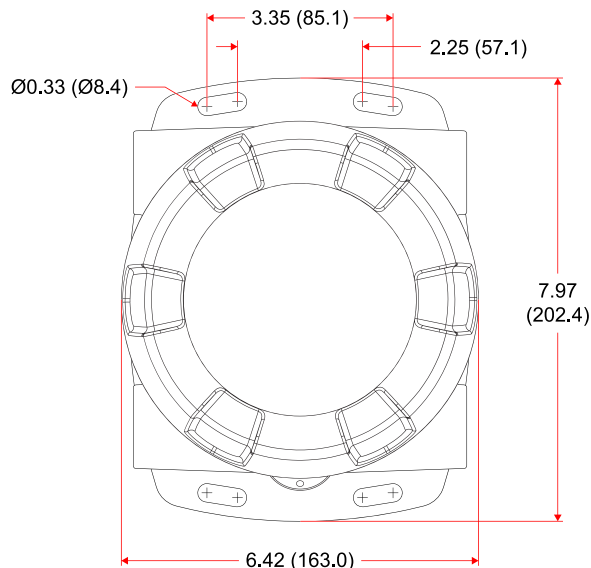
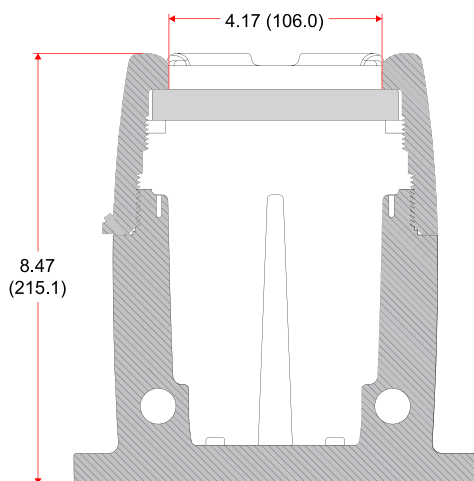

Figure 2. Enclosure Dimensions – Front View
Figure 3. Enclosure Dimensions – Side Cross Section View
The ProtEX-MAX has two slotted mounting flanges that may be used for pipe mounting or wall mounting. Refer to *Figure 2* and *Figure 3* below.
- Prepare a section of wall approximately 7" x 8.5" (178 mm x 216 mm) for annunciator mounting by marking with a pencil the mounting holes (shown in *Figure 2*) on the wall.
- Select the appropriate mounting screws for the mounting surface to be used. The mounting holes diameter is shown on *Figure 2*.